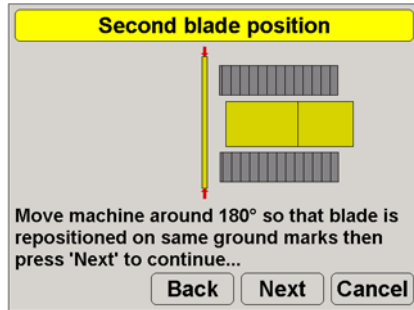

Figure 4-10. Second Blade Position
4. Wait five seconds until the Second blade position dialog box displays (Figure 4-10).